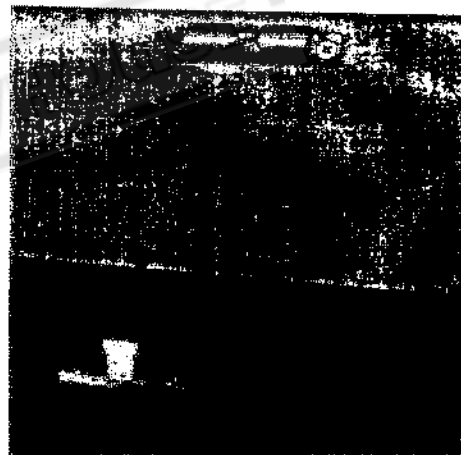

Fig. 7
3. Open the blade cover, locking it securely blade cover latch (Fig. 7), and clean chips out of both wheel housings. Loosen lock knobs and remove upper and lower blade guard. Remove wire brush assembly.